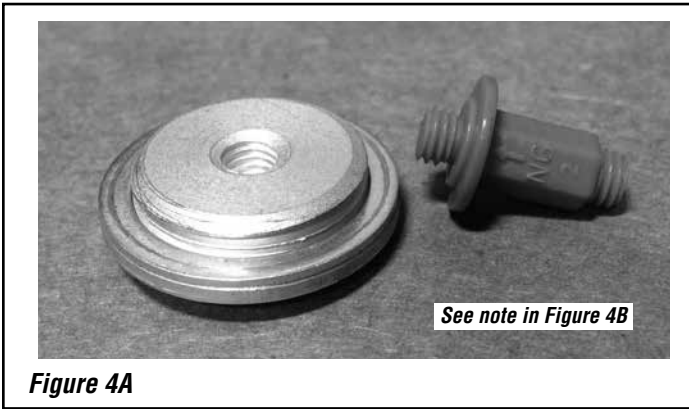

Figure 4A
Step 4A. Change the Stem Position on the Plug. See *Figures 4A and 4B*.